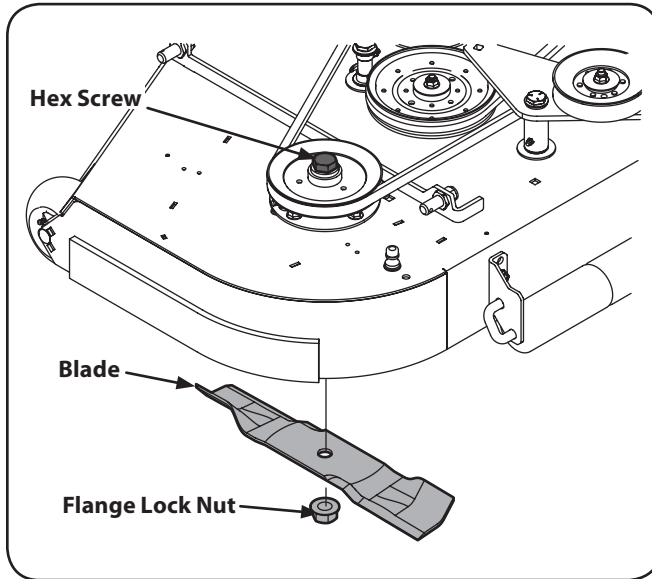

Figure 7-7
4. Use a 1-1/8" socket wrench on the pulley side of the spindle bolt. See Fig. 7-7.